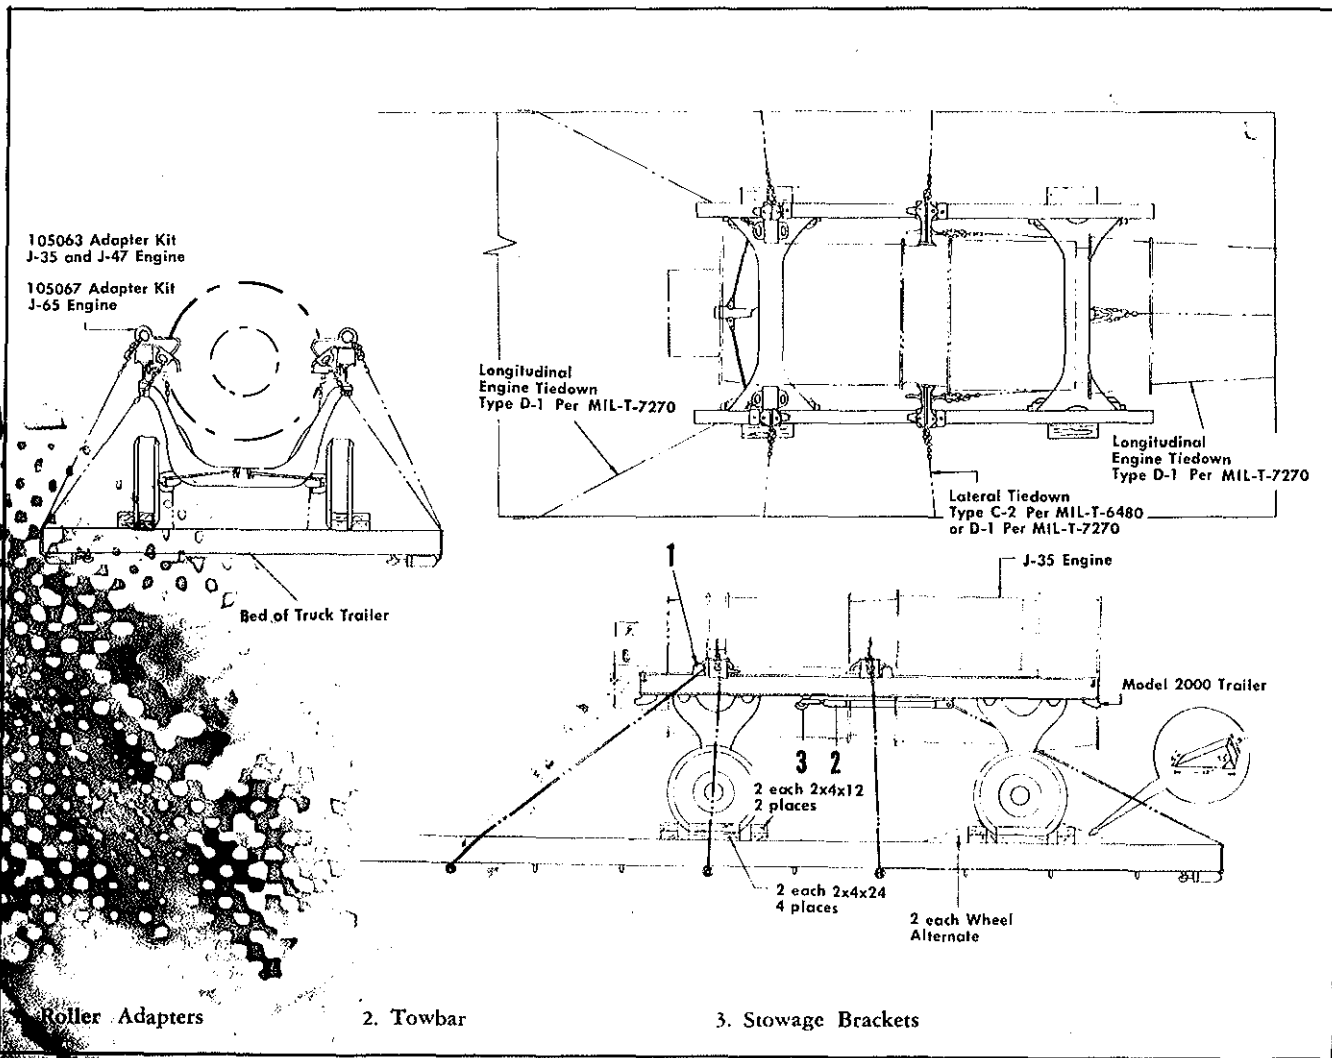

Figure 4-5. Truck Shipment Tie-Down
**4-9. TRUCK SHIPMENT.** (See figure 4-5.)
4-14. Tie trailer down as illustrated in figure 4-5, making certain all tie-downs are tight.